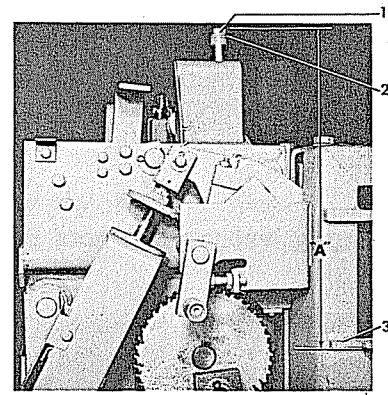

Figure 14. (8034464) Plunger Interlock
Refer to Figure 14. With the breaker in the closed position, the vertical distance "A" from the top of the plunger bolt (1) to the bottom of the breaker lifting rail (3) should be 11-7/32" to 11-11/32". To change this adjustment, add or remove washers (2).